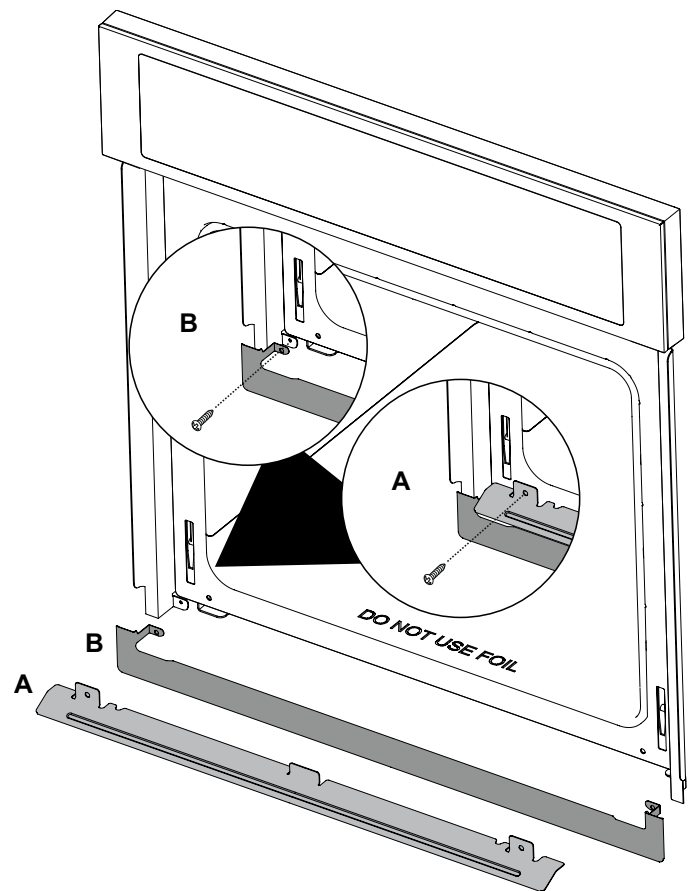

Figure 8: Bottom trim
A. Place the air diverter (A) in place as shown in Figure 8. Line up screw locations and attach both ends.
B. Place the color matched trim (B) in place as shown. Line up screw locations and attach both ends.